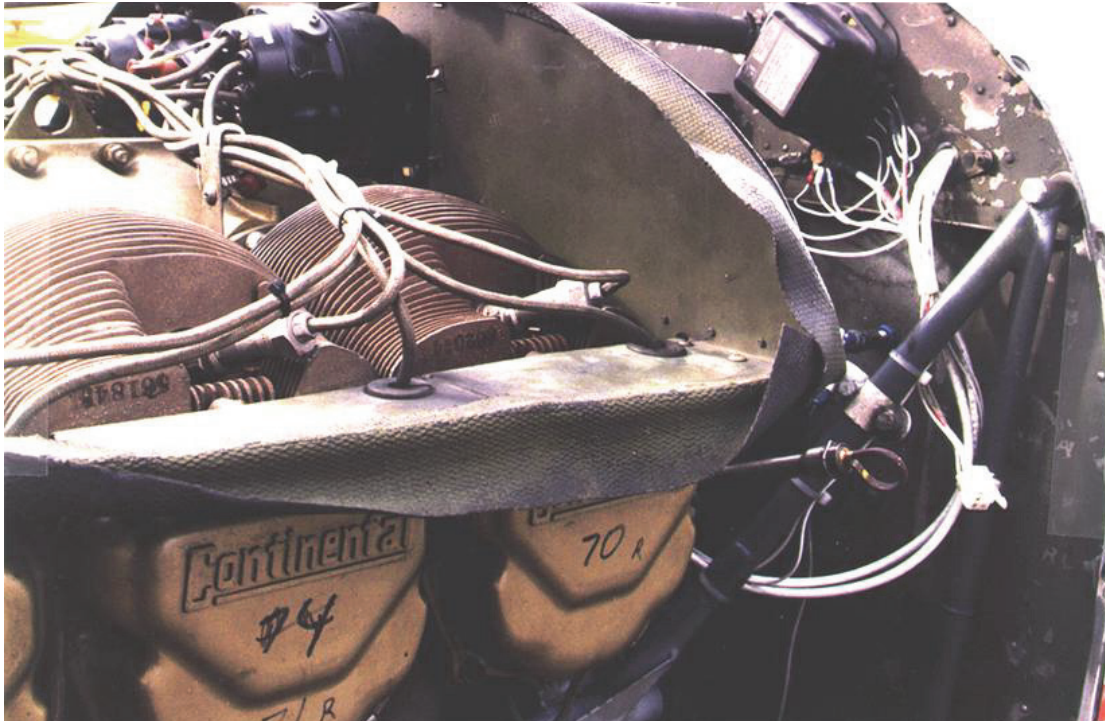
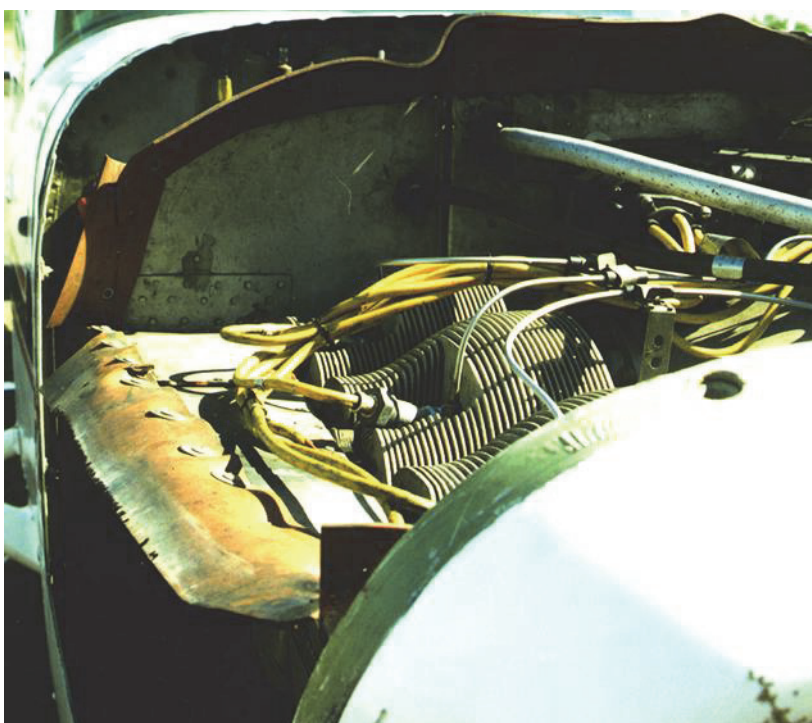

Figure 6-74. Improperly Positioned Baffle Seals
Figure 6-77. Improperly Positioned Aft and Side Peripheral Baffle Seals
1. Check the following for deterioration, wear, correct position, and proper contact with the cowl. Figure 6-74 through Figure 6-77 show improperly positioned baffle seals.